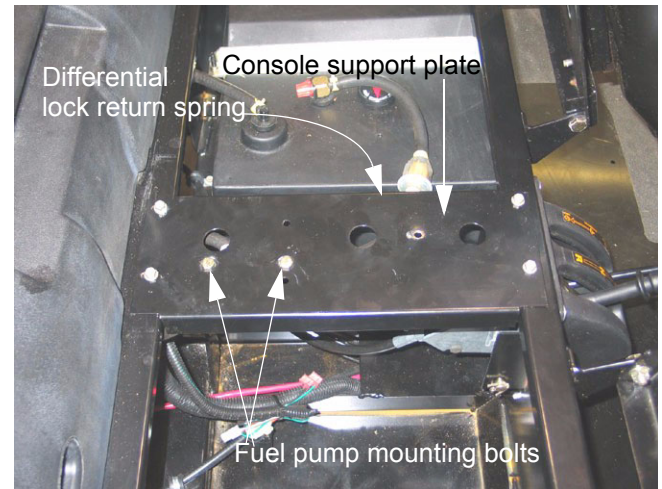

Figure 4.2
- 4.2. To gain access to the gear shift control, tilt both seats forward, and remove the console/cup holder using a 7/16” wrench. See Figure 4.2.